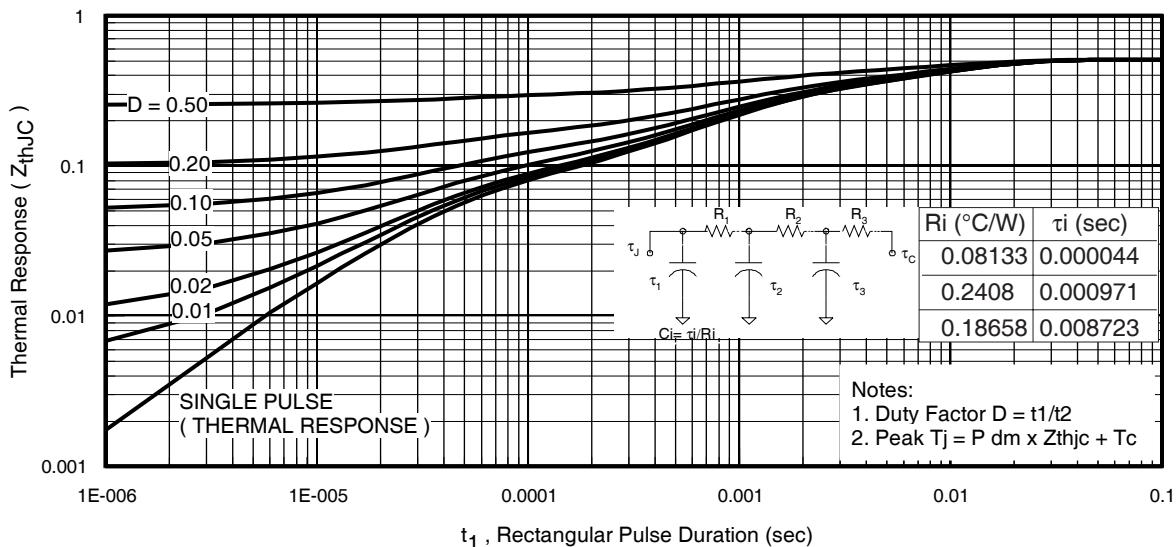
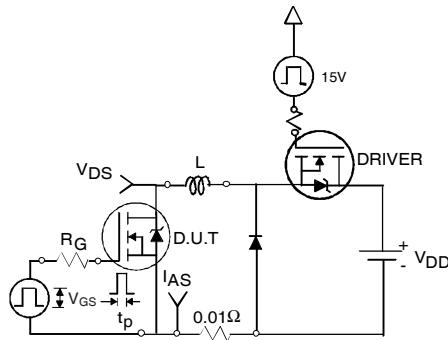

Fig 11. Maximum Effective Transient Thermal Impedance, Junction-to-Case
Fig 12a. Unclamped Inductive Test Circuit
- ① Repetitive rating; pulse width limited by max. junction temperature. (See fig. 11).
- ② Limited by $T_{J\text{max}}$, starting $T_J = 25^\circ\text{C}$, $L = 0.10\text{mH}$ $R_G = 25\Omega$, $I_{AS} = 75\text{A}$, $V_{\text{GS}} = 10\text{V}$. Part not recommended for use above this value.
- ③ Pulse width $\leq 1.0\text{ms}$; duty cycle $\leq 2\%$.
- ④ C_{oss} eff. is a fixed capacitance that gives the same charging time as C_{oss} while V_{DS} is rising from 0 to 80% V_{DSS} .
- ⑤ Limited by $T_{J\text{max}}$, see Fig. 12a, 12b, 15, 16 for typical repetitive avalanche performance.
- ⑥ This value determined from sample failure population. 100% tested to this value in production.
- ⑦ This is only applied to TO-220AB package.
- ⑧ R_θ is measured at T_J approximately 90°C
3. Equation below based on circuit and waveforms shown in Figures 12a, 12b.
- $Z_{thJC}(D, t_{av})$ = Transient thermal resistance, see figure 11)